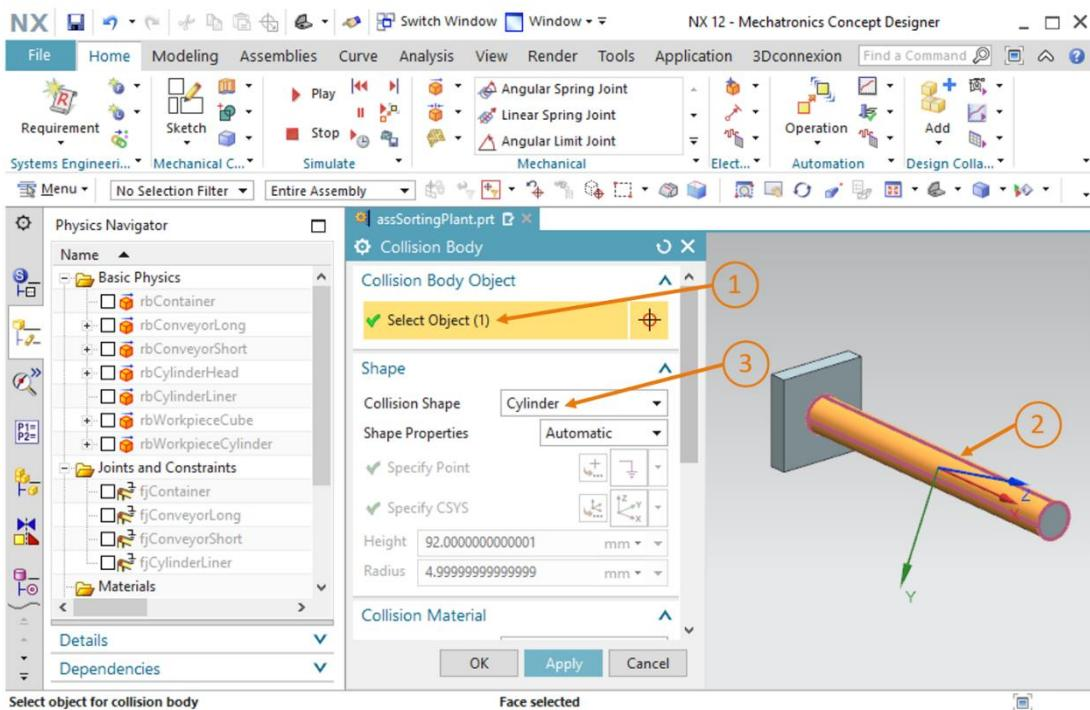

Figure 30: Creating the collision body for the guide cylinder of the ejector head
- Also create a collision body for the cylindrical guide of the ejector head, because a collision of the guide with a workpiece is possible in principle. Open the "Collision Body" command for this, and select the **cylindrical surface** as collision object (see Figure 30, steps 1 + 2). Assign the collision shape "**Cylinder**" to this body (see Figure 30, step 3) and assign the name "**cbCylinderHeadLiner**". Confirm these settings by clicking the "**OK**" button.